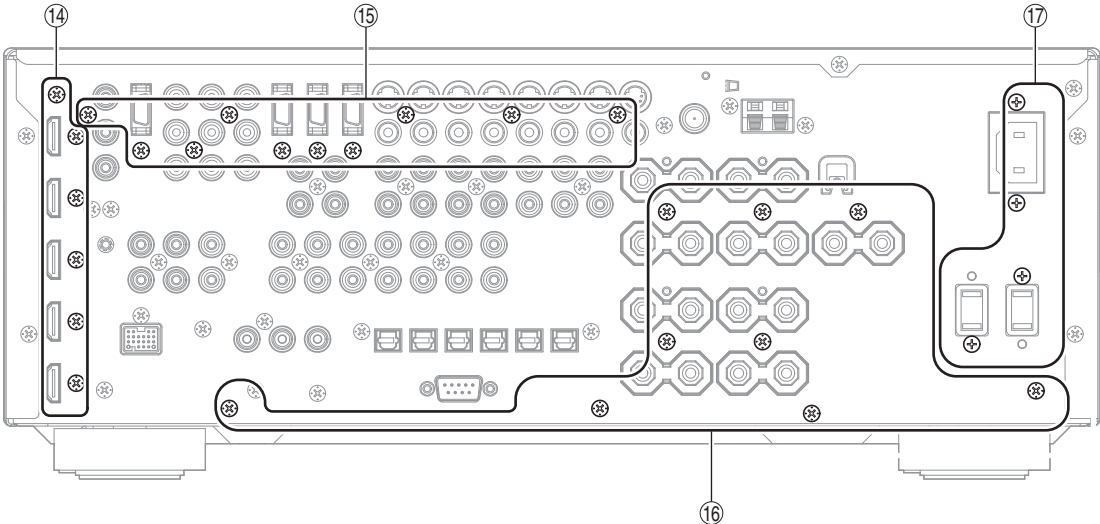

Fig. 6
- e. Remove 6 screws (⑭). (Fig. 6)
- d. ⑭のネジ 6 本を外します。(Fig. 6)
- a. Remove 6 screws (⑮). (Fig. 6)
- a. ⑮のネジ 10 本を外します。(Fig. 6)
- Remove 11 (U, C, T, K, A, B, G, E models) / 13 (R, L models) screws (16) and 4 (U, C, R, T, A, B, G, E, L models) / 2 (K model) screws (17). (Fig. 6)
- ⑯のネジ9本、⑰のネジ4本を外します。(Fig. 6)